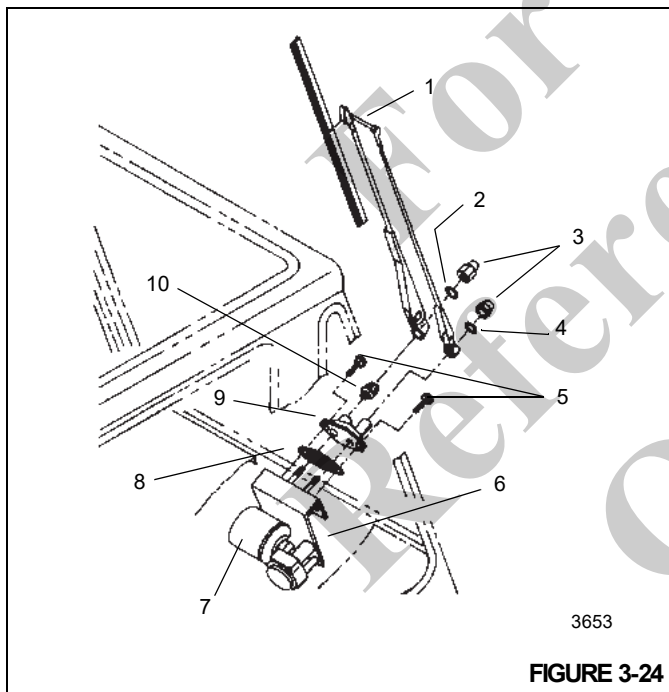

FIGURE 3-24
4. Disconnect the washer hose on the wiper arm (also called the pantograph arm assembly) from the washer nozzle fitting assembly (Figure 3-24).